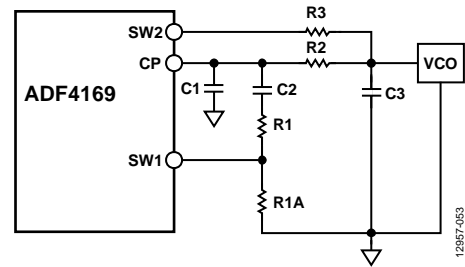

Figure 52. Fast Lock Loop Filter Topology 1
To further enhance stability and mitigate frequency overshoot during a frequency change in wide bandwidth mode, Resistor R3 is connected (see Figure 52). During fast lock, the SW1 pin is shorted to ground, and the SW2 pin is connected to CP (set Bits DB[20:19] in Register R4 to 01 for fast lock divider mode).
- Divide the damping resistor (R1) into two values (R1 and R1A) that have a ratio of 1:3 (see Figure 52).